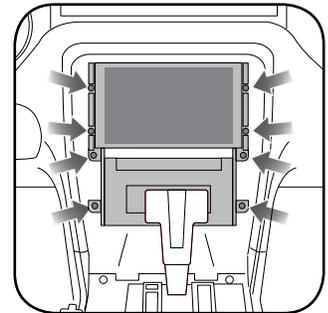

Fig. 1.6
6. Remove (8) 7mm screws securing the screen and radio chassis, then unclip and remove them. Remove the mounting brackets from the screen and radio chassis. (fig. 1.6)